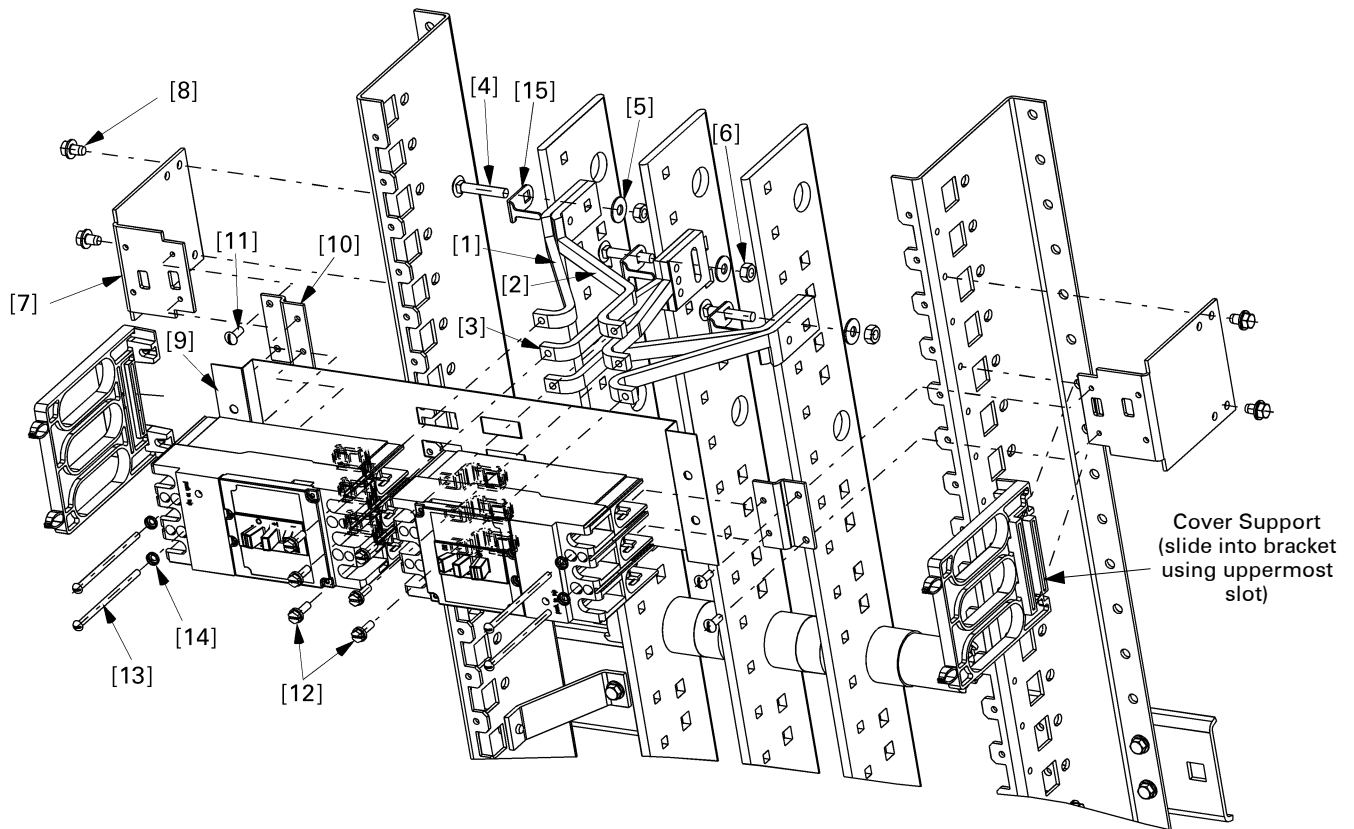
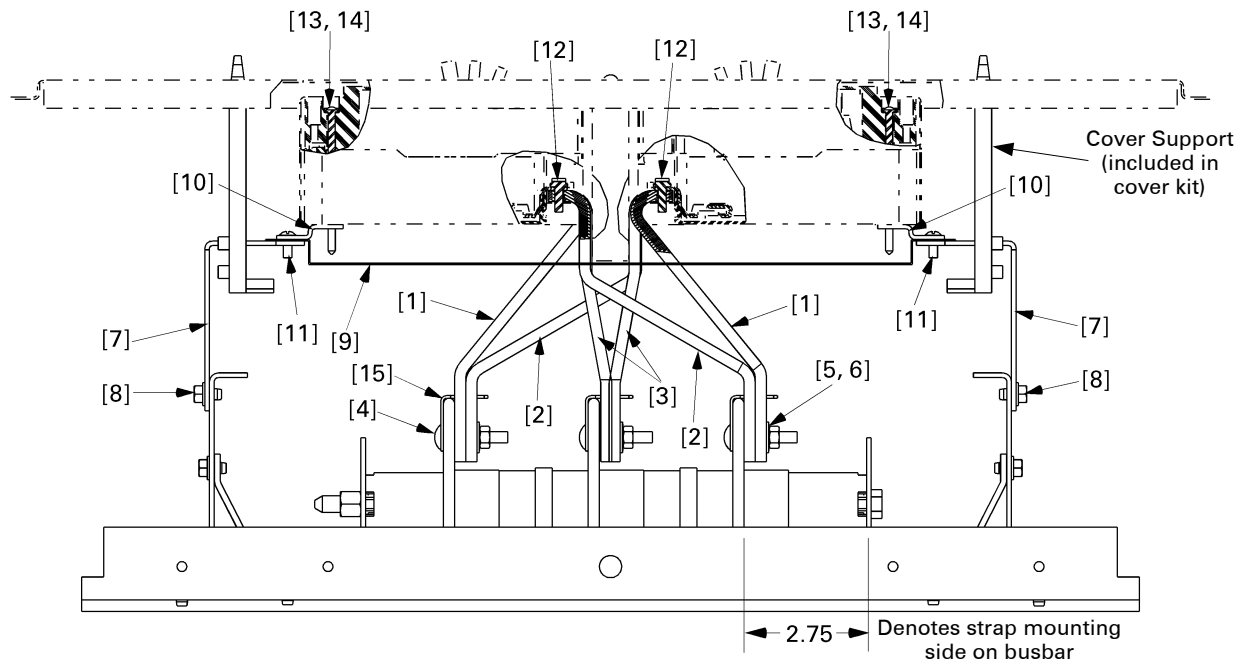

Figure 1. Bolt-on circuit breaker assembly exploded view.
Figure 2. Bolt-on circuit breaker assembly end view.
CAUTION: For Spectra APNB bolt-on-style interiors, locate the side of the panel interior for which the dimension from the nearest vertical bus face to the inner face of the bus support rail is 2.75 inches, as indicated in Figure 2. The circuit breaker straps must be mounted on this side of the bus.
- 1. Install circuit breaker straps.** Install the straps beginning with phase A, as shown in Figure 1 and Figure 2. Align the outer [1] and inner [2] straps back to back, as shown. Slide the square hole in the antiturn clip [15] over the square shank of the carriage bolt [4], then insert the pin section of the clip through the circular hole in the strap assembly, with the bolt extending through the square hole immediately below. Fasten the complete strap assembly loosely to the vertical bus, using a Belleville washer [5] and nut [6]. Repeat the procedure for the phase B straps [3] and the phase C straps [1, 2].
- 3. Install bus barrier and breaker mounting brackets.** Attach the barrier mounting brackets [7] to the panel side rails with the thread-forming screws [8], as shown in Figure 1. Place the barrier [9] over the straps, with the flanges resting on the mounting brackets. Place the breaker mounting brackets [10] over the barrier and secure with the #8-32 screws to the barrier and barrier mounting brackets. Tighten the thread-forming screws [8] to 15–20 in-lb.